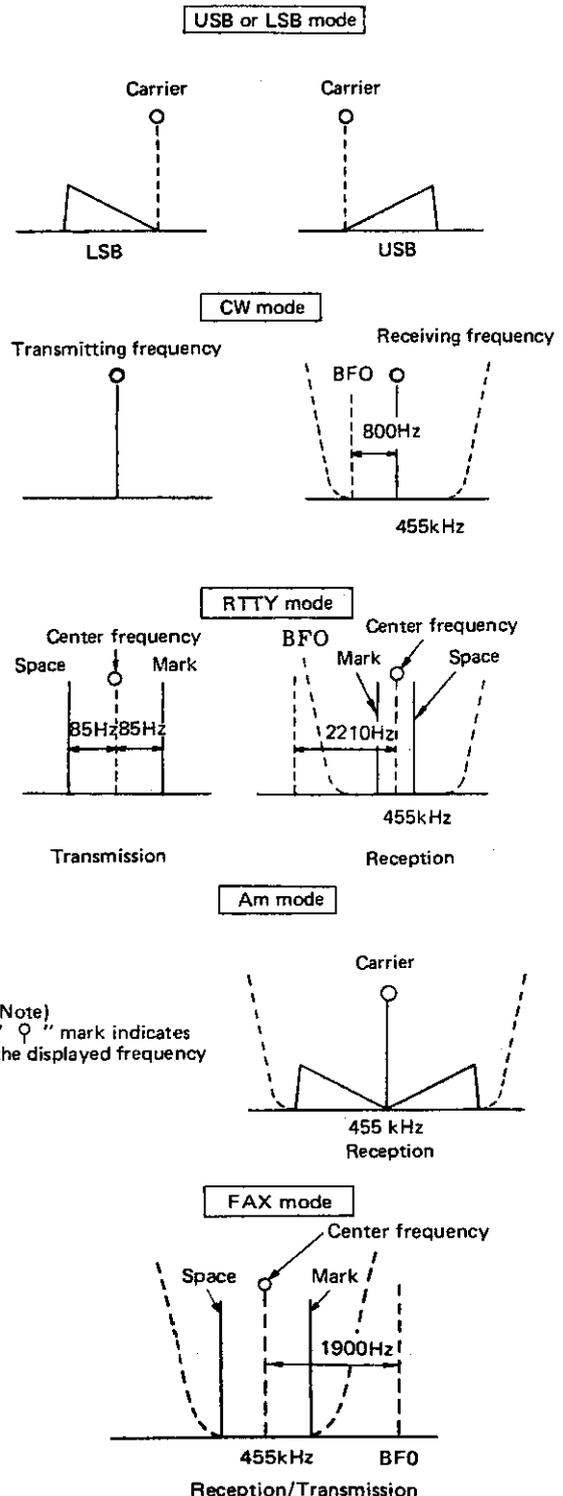

Figure 4.1 Frequency Display
The frequency display (3) indicates the frequency according to the mode as shown below: (Fig. 4.1)